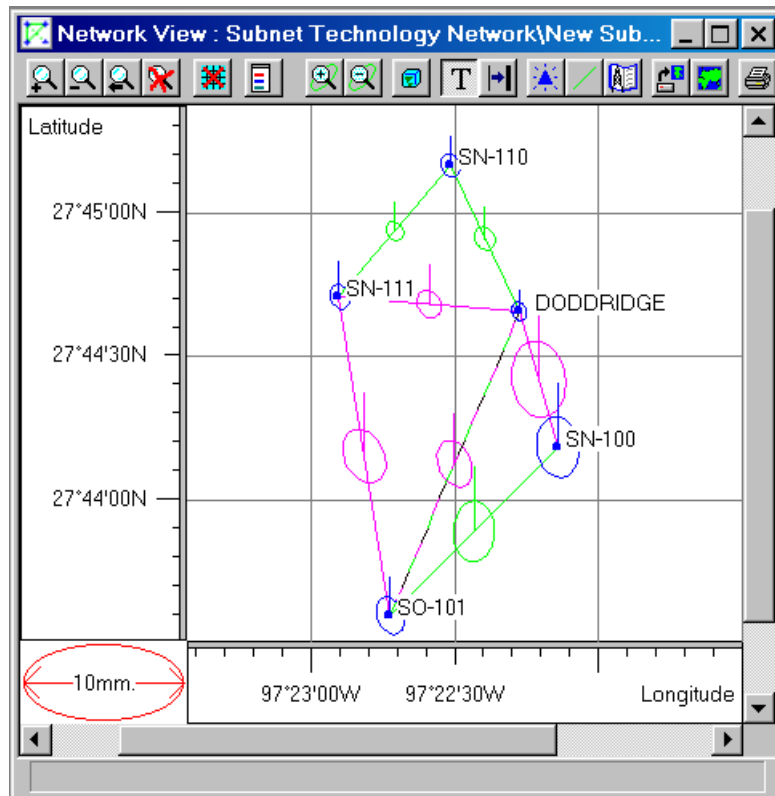

Figure 1-10
- The **Show point names** and **Show comments on nearby objects** checkboxes are used to show or hide the point names and comments on the nearby objects (see Figure 1-10).
The actual sizes of the error ellipses can be easily recognized by comparing them to the red reference ellipse shown in the bottom-left-hand corner of the *Network View* window (see Figure 1-10).